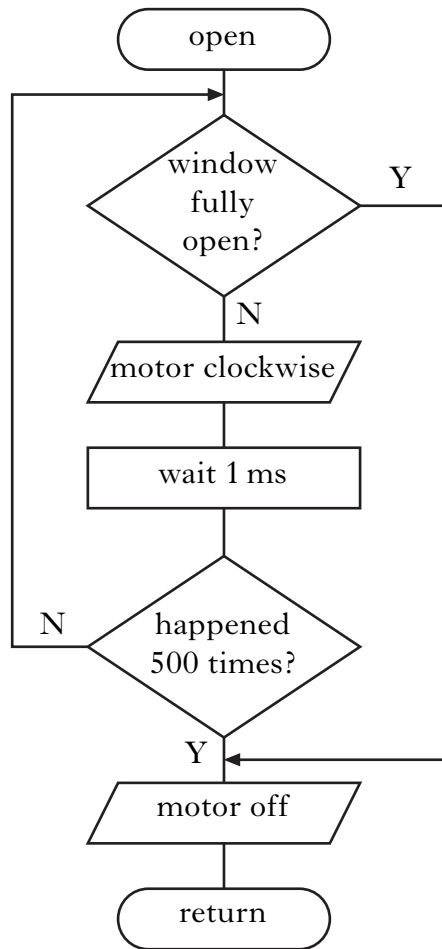

Figure Q5(a)
5. A microcontroller-based system controls the temperature in a greenhouse by opening and closing a window. Figure Q5(a) shows the flowchart for the sub-procedure *open*. A motor rotates clockwise to open the greenhouse window.
The relevant connections to the microcontroller are shown in Figure Q5(b).